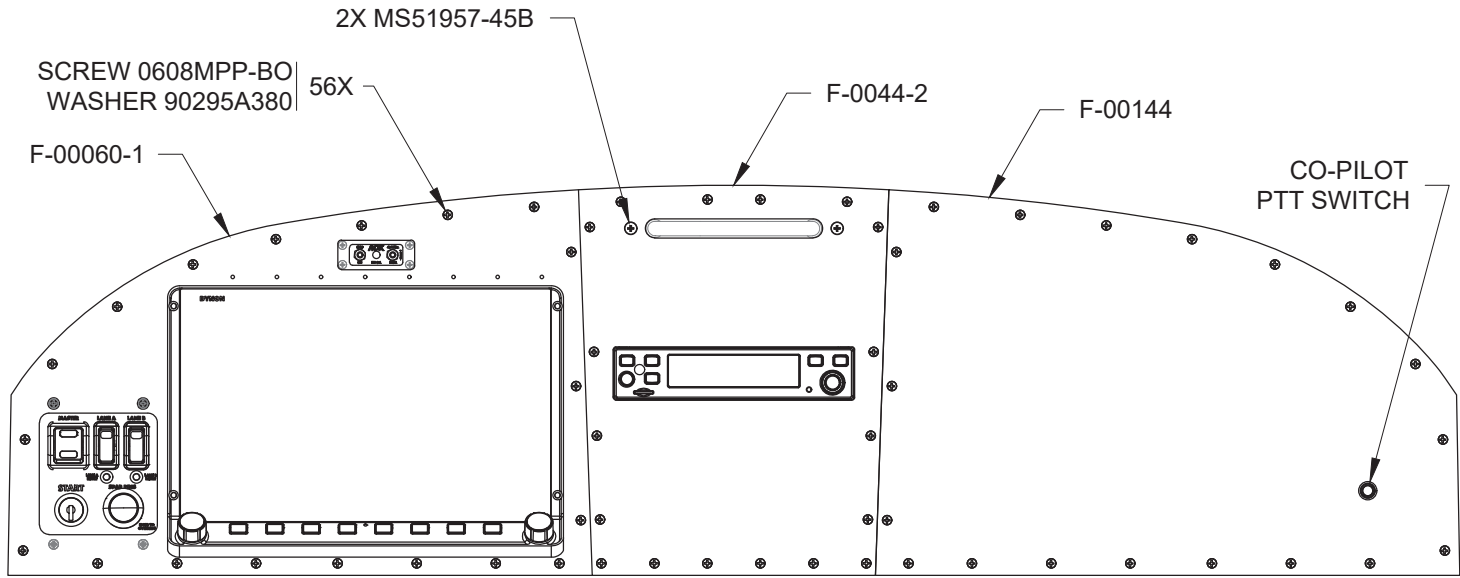

FIGURE 2: ATTACH INSTRUMENT PANELS
Step 6: Attach the co-pilot push-to-talk switch labeled "PTT" on the WH-00133-1 to the F-00144 as shown in Figure 2. Discard the included metal nut and star washer prior to installation. Skip this step if you will be installing the optional dual display kit.